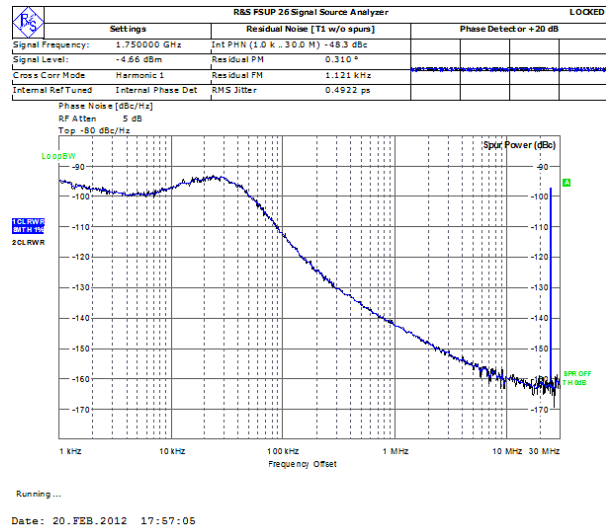
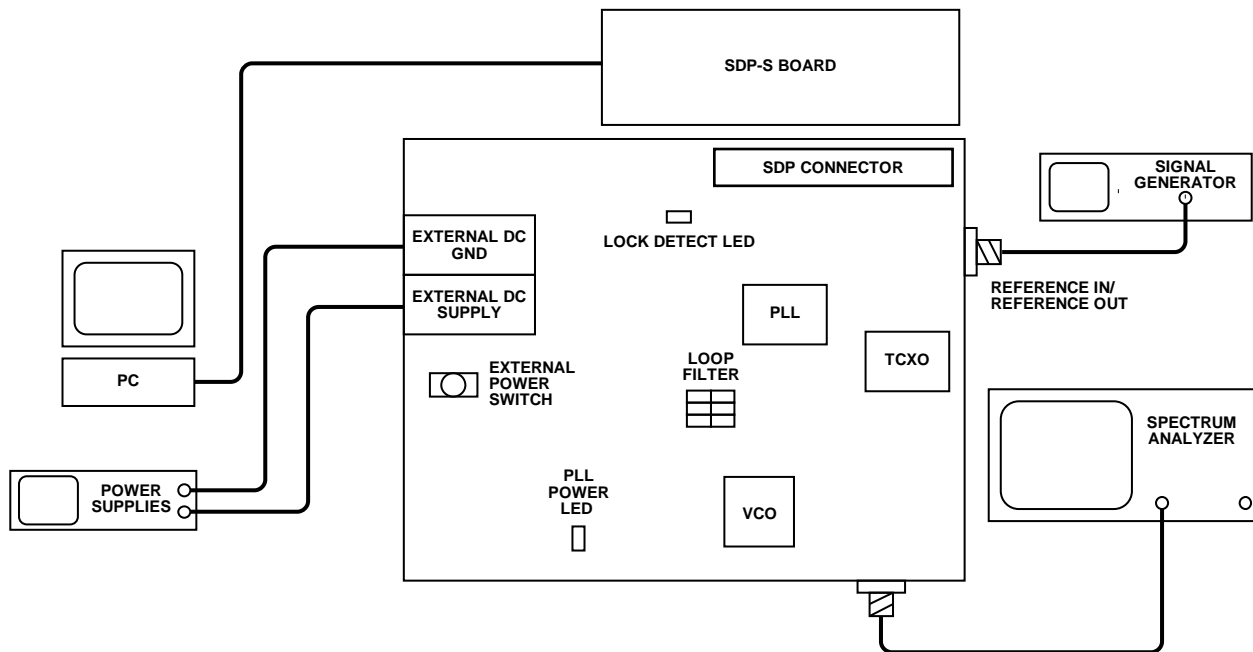

Figure 19. Signal Source Analyzer Display
Figure 20. Typical Evaluation Setup
6. In the software window, set the VCO center frequency (Figure 19 shows a screenshot of the signal source analyzer operating in phase noise mode, taken at a carrier frequency of 1750 MHz). Set the proper PFD frequency to 25 MHz, and program the reference frequency to equal 25 MHz. The charge pump current should equal 2.5 mA. See Figure 20 for the suggested setup.
7. Measure the output spectrum. Figure 19 shows a 1750 MHz output.